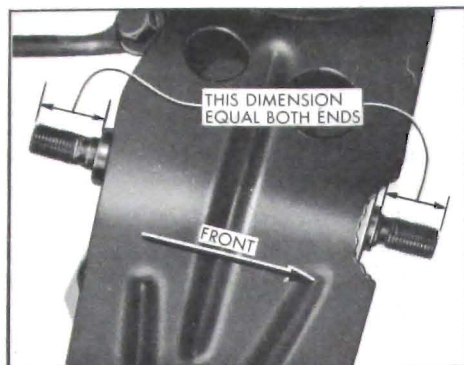

Figure 7-24—Lower Control Arm Shaft Installation
6. Thread shaft into front suspension cross member until the shaft extends an equal distance from front and rear of front suspension cross member. This distance is approximately 1-11/16"; however, it is necessary to measure and exactly position shaft. See Figure 7-24.